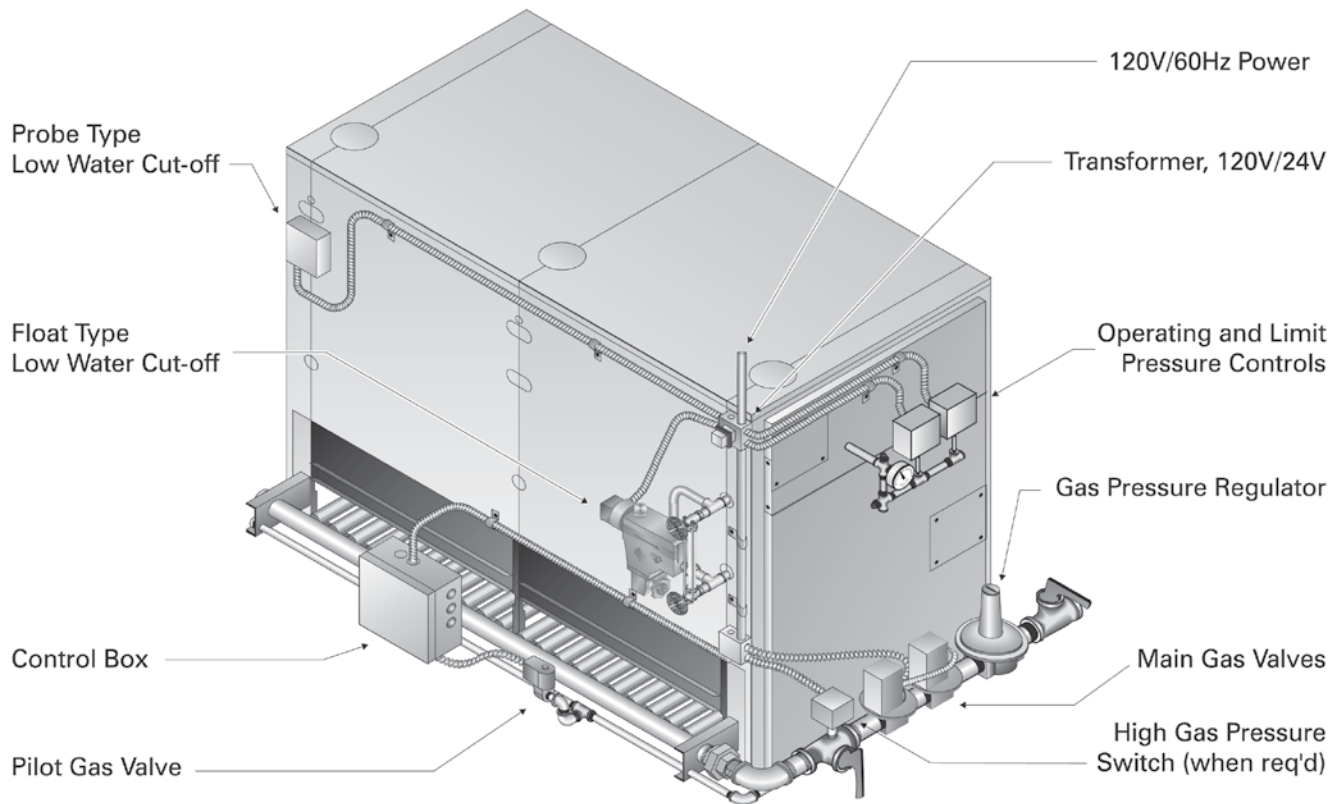

Figure 9.1a: Typical Control Layout and Wiring - HSP Ignition
1. Mount the control transformer on the junction box as shown in Figures 9.1a and 9.1b.
1. Wire the boiler according to the wiring diagram supplied with the boiler (in the Control Envelope). Figures 9.1a and 9.1b are a typical layout of the components on the boiler. Figures 9.2 through 9.4 are examples of standard wiring systems. Use these drawings for general reference only.